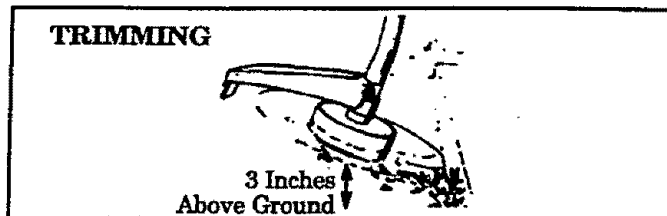

Figure 9
1. **TRIMMING** – Figure 9 . Hold the bottom of the trimmer head about 3 inches above the ground and at an angle. Allow only the tip of the line to make contact. Do not force the trimmer line into the work area.